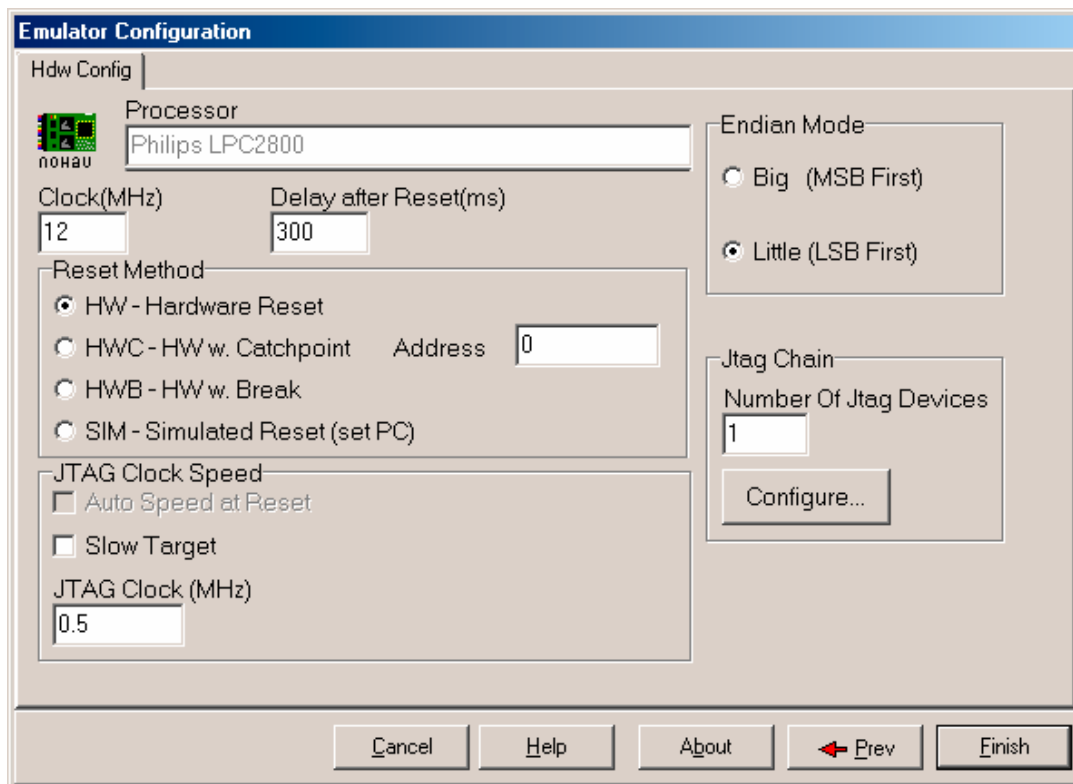

Figure 2-15: Emulator Configuration Window Displaying the Hdw Config Tab
5. Click Next. The **Hdw Config** tab opens (Figure 2-15).